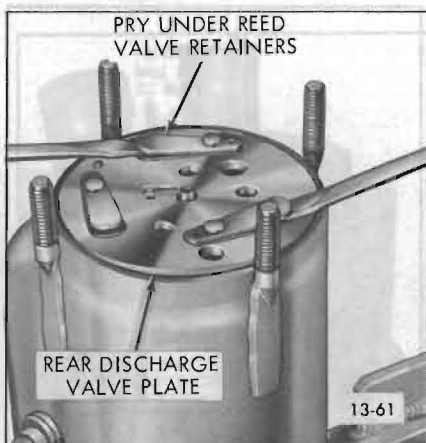

Figure 13-61—Removing Rear Discharge Valve Plate
9. Carefully pry out rear discharge valve plate and rear suction valve reed disc with screwdrivers (see Figures 13-61